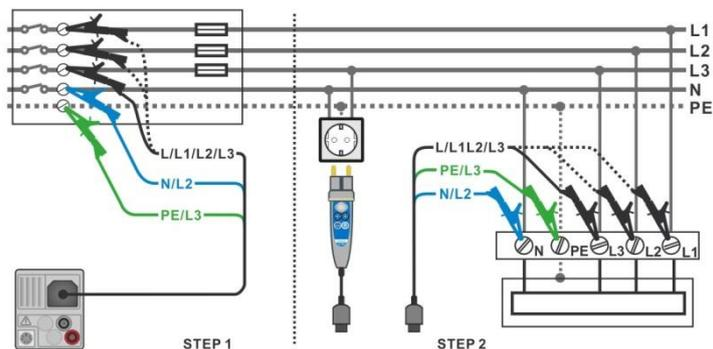

Figure 7.95: AUTO TT measurement
- ▶ Connect test leads or Plug commander to the object under test, see Figure 7.95.